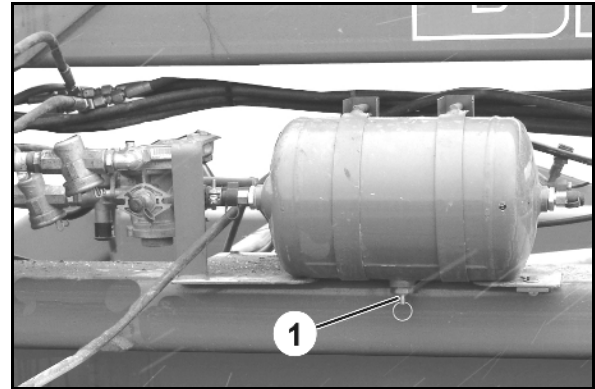

Fig. 82
3. Pull the drainage valve (Fig. 82/1) in a sideways direction by the ring until no more water escapes from the compressed air tank.
The compressed air tank (Fig. 82/1) must not